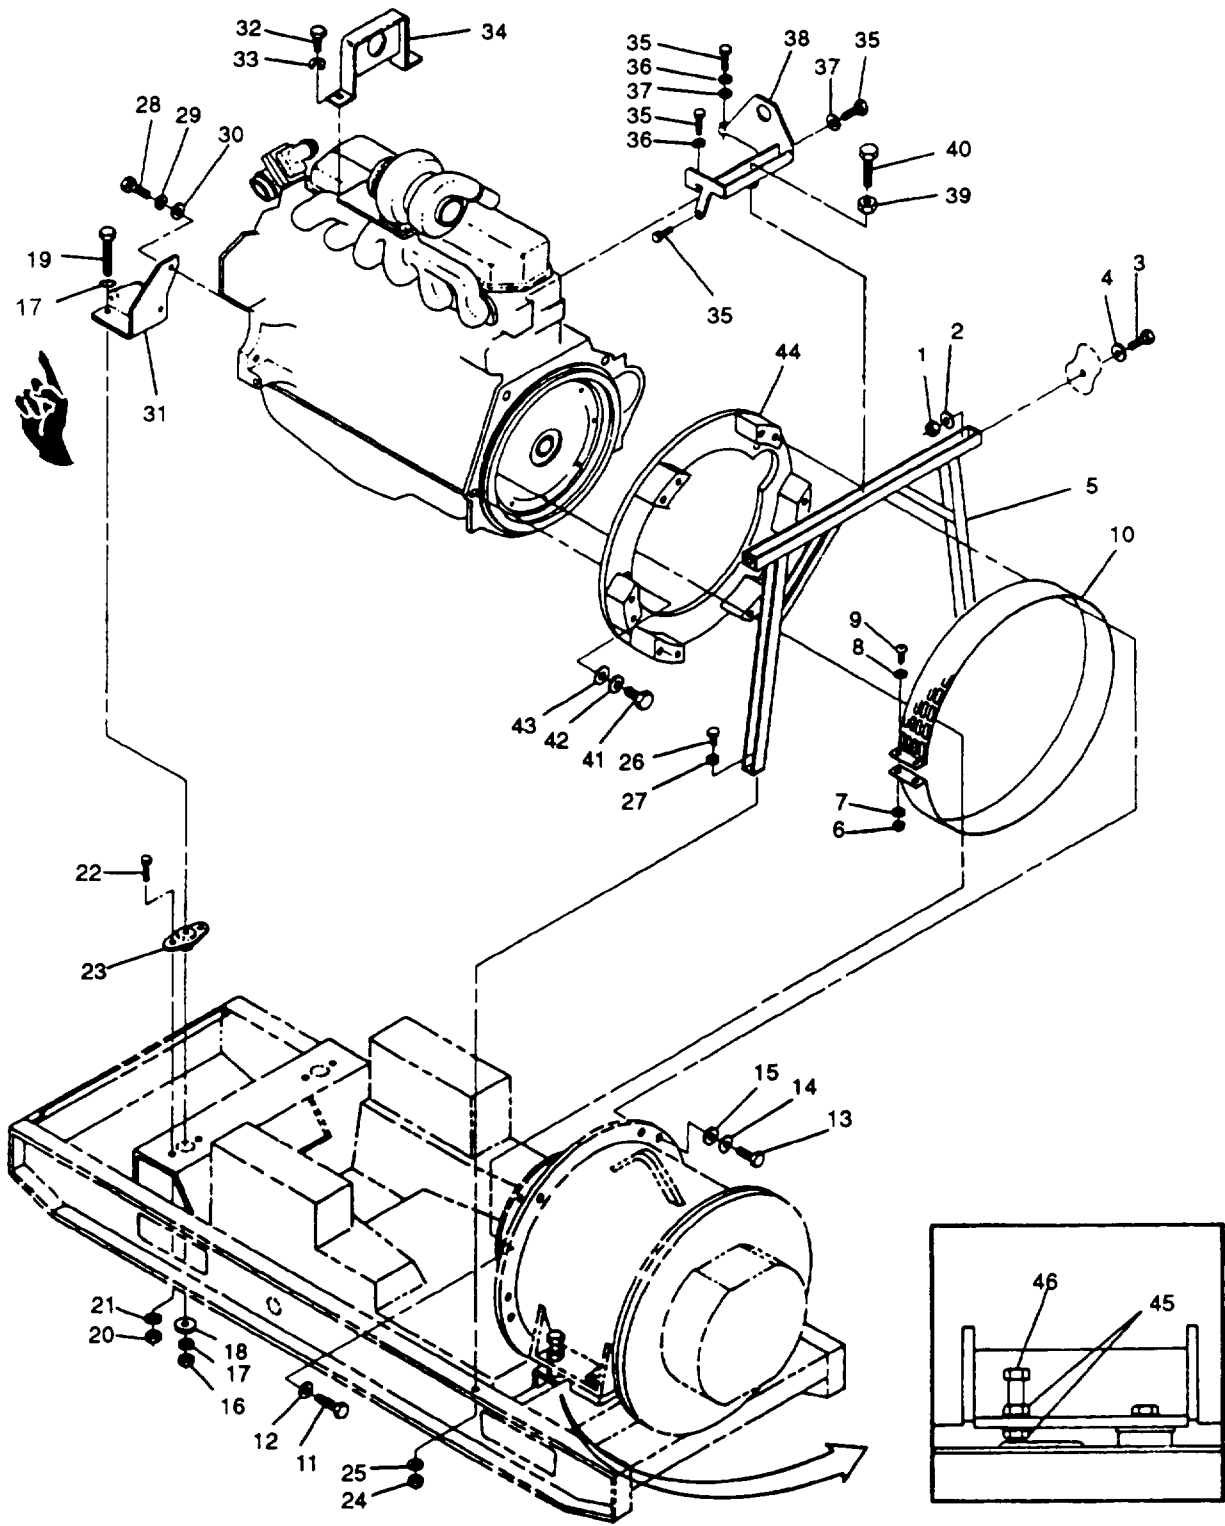

FIGURE 3-14. Engine Assembly Removal
- ae. Remove nuts (8), lockwashers (6) and (9), washers (7) and (11), and bolts (5) and (10) securing lower left side panel (12) to front housing and skid base.
- af. Remove nuts (1, FIGURE 3-14), lockwashers (2), bolts (3), and washers (4) securing frame (5) to rear housing side panels. With aid of an assistant, remove left rear side panel (4, FIGURE 3-8) and lower left side panel (12) as an assembly.
- au. Loosen nuts (45, FIGURE 3-14), turn bolts (46) to contact skid base and tighten nuts (45).
- av. Remove nuts (6), lockwashers (7), screws (8), washers (9), and screen/cover (10) from generator case.
- ax. Remove bolts (11) and washers (12) securing generator drive disc to engine flywheel.
- bb. Remove nuts (16, FIGURE 3-14), washers (17), snubbing washers (18), and bolts (19) securing mount brackets (31 ) to skid base.
- bc. Remove nuts (1, FIGURE %16), lockwashers (2), bolts (3), shim(s) (4), and radiator mounting bracket (5) from engine mount brackets (6).
- bd. With aid of an assistant, slowly lift engine assembly from skid base, ensuring that engine flywheel housing adapter (44, FIGURE 3-14) separates smoothly from generator without binding. Remove engine from generator set housing and place on engine stand.
- be. Remove nuts (20), lockwashers (21), bolts (22), and shock mounts (23) from skid base.
- bf. Remove nuts (24), lockwashers (25), bolts (26), washers (27), and support frame (5) from skid base.
- bg. Remove bolts (28), lockwashers (29), washers (30), and mount brackets (31) from engine block.
- bh. Remove bolts (32), lockwashers (33), and front engine lifting bracket (34) from engine assembly.
- bi. Remove bolts (35), lockwashers (36), washers (37), and rear engine lifting bracket (38) from engine assembly.
- bj. Remove nut (39) and support bolt (40) from rear engine lifting bracket (38).
- bk. Remove bolts (41), lockwashers (42), washers (43), and flywheel housing adapter (44) from engine assembly.
- a. Install flywheel housing adapter (44, FIGURE 3-14) on engine assembly with bolts (41), lockwashers (42), and washers (43). Torque bolts (41) to 120 ft-lbs. (163 Nm).
- b. Install support bolt (40) and nut (39) in rear engine support bracket (38). Tighten nut (39) on bottom of bracket (38) so that support bolt (40) protrudes approximately 0.25 inch (6.35 mm) past nut (39).
- c. Install rear engine lifting bracket (38) on engine assembly with bolts (35), lockwashers (36), and washers (37).
- d. Install front engine lifting bracket (34) on engine assembly with bolts (32) and lockwashers (33).
- e. Install mount brackets (31) on engine block with bolts (28), lockwashers (29), and washers (30).
- f. Install shock mounts (23) on skid base with bolts (22), lockwashers (21), and nuts (20).
- g. Install support frame (5) on skid base with bolts (26), washers (27), lockwashers (25), and nuts (24).
- af. Secure left rear side panel (4) to skid base with bolts (1), lockwashers (2), and washers (3).
- ag. Secure lower left side panel (12) to front housing and skid base with bolts (5) and (10), washers (7) and (11), lockwashers (6) and (9), and nuts (8).
- ah. Secure frame (5, FIGURE 3-14) to rear housing side panels with bolts (3), washers (4), lockwashers (2), and nuts (1).